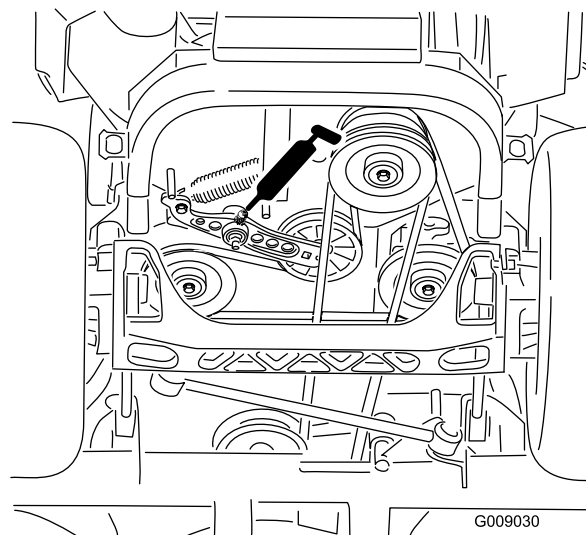

Figure 41
5. Grease the drive-belt idler arms (Figure 41).